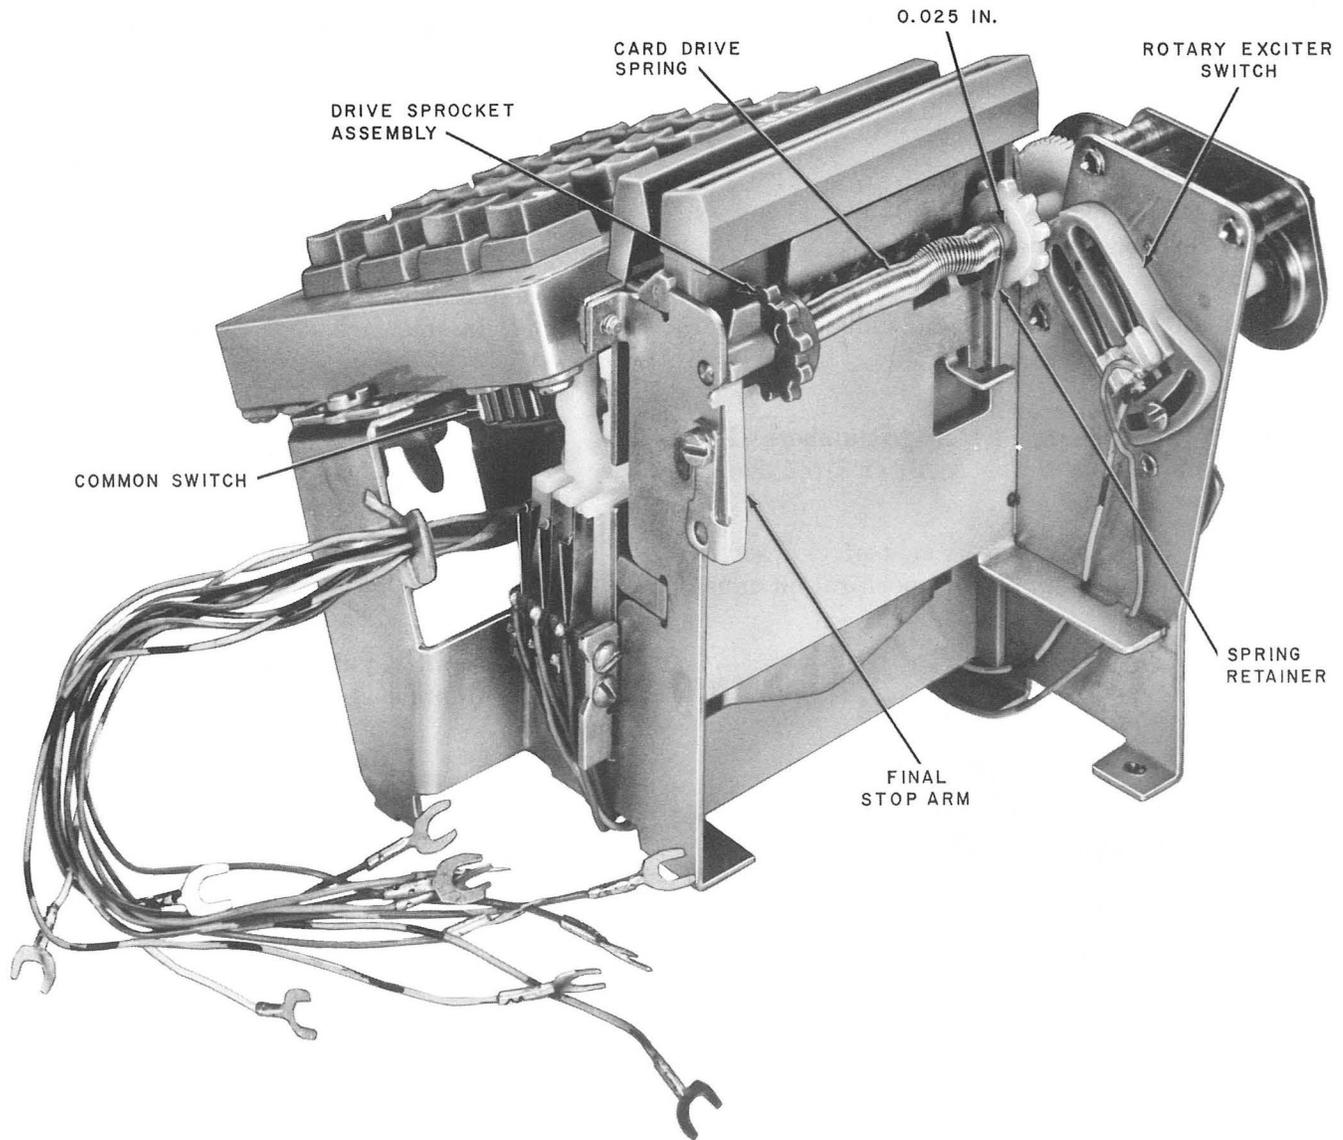

Fig. 8 — 67-Type Dial — Rear View
- (1) Unwind drive spring by pulling out on final stop arm until there is no tension on spring retainer (Fig. 8).
- (2) Release final stop arm.
- (3) Holding START bar operated, turn sprocket assembly sixteen full turns. Turns can be counted by listening to the clicks as final stop arm passes over drive shaft return stop.
- (4) When drive spring is fully wound, there should be at least 0.025-inch clearance between hub of sprocket gear and spring retainer (Fig. 8). Spring retainer must be held to the left as far as possible for this measurement.